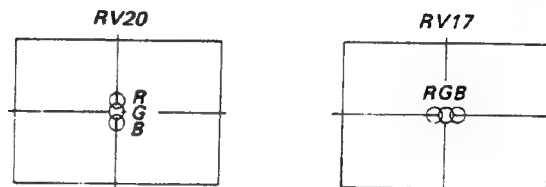

Fig. 1-7
2. Adjust the vertical static convergence with RV20 (X.S) at the sub control panel (DA board) as shown in left of Fig. 1-7.
3. Adjust the horizontal static convergence with RV17 (Y.S) at the sub control panel (DA board) as shown in right of Fig. 1-7.